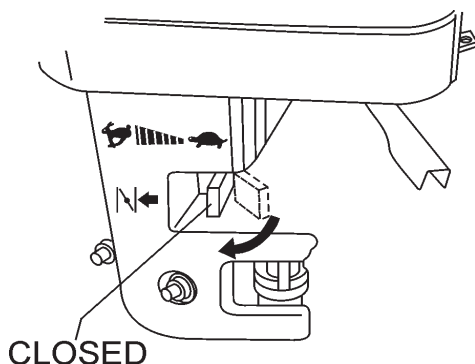

Figure 15. Choke Lever (Open)
7. If the engine has started, slowly return the choke lever (Figure 15) to the “**OPEN**” position. If the engine has not started repeat steps 1 through 6.